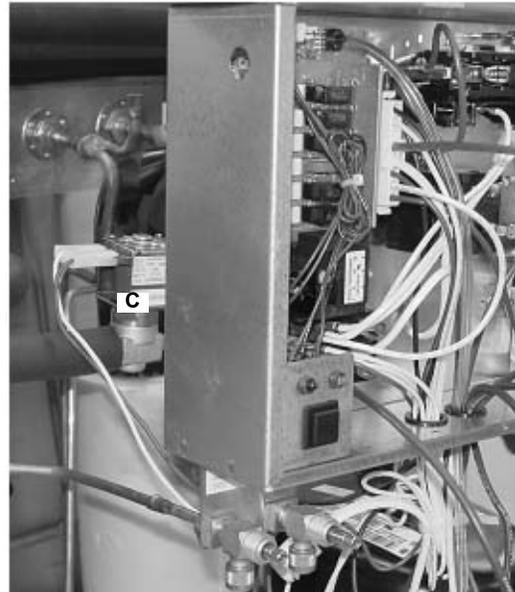

Figure 47.
58. Connect the hot gas valve harness (C) (white and red leads) to the hot gas valve (Figure 47).